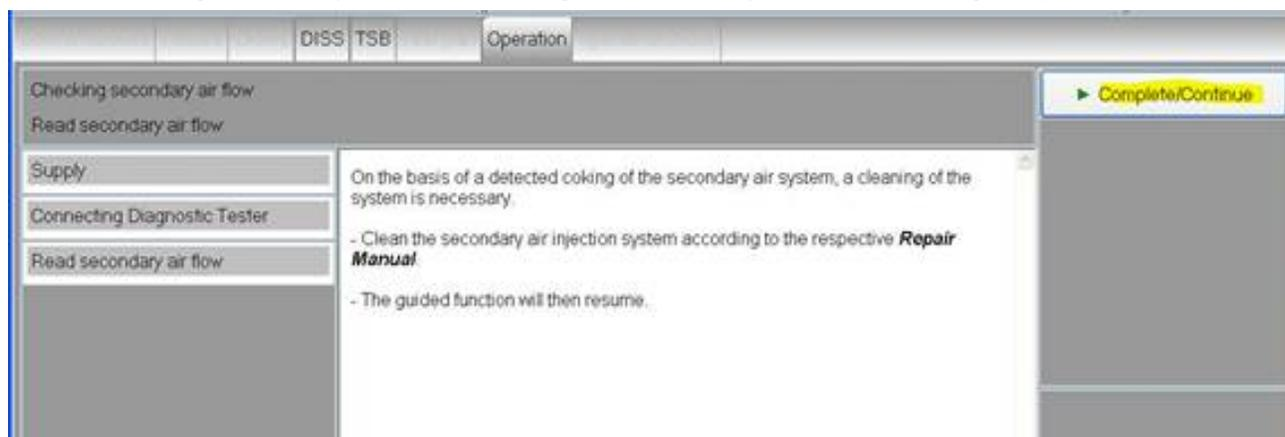

Figure 3. Select **Complete/Continue**.
4. The basic setting, Secondary Air Check, will begin. Select **Complete/Continue** (Figure 3).